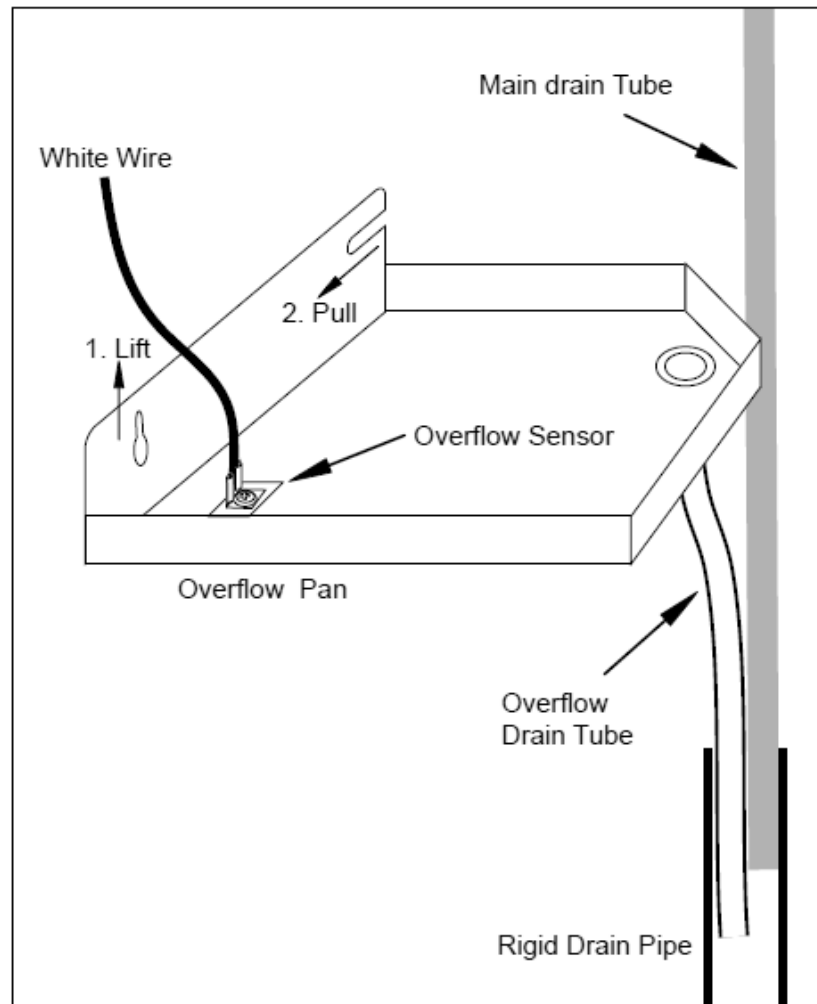

Figure 6
3. Unplug the white quick connect wire connected on the water pan at the bottom of the unit. This wire is connected to the overflow sensor. Please see Fig.6
4. Pull the plastic tube attached to the bottom of the unit out of the rigid drain pipe on the wall. You do not have to remove the plastic tube attached to the bottom of the pan. Remove the overflow pan from the unit by slightly loosening the front screw then lifting the front of the pan off the screw and pulling it towards you. Please see Fig. 6. Remove the main drain tube from the rigid drain pipe attached to the wall and check that they are both clean and clear from deposits.